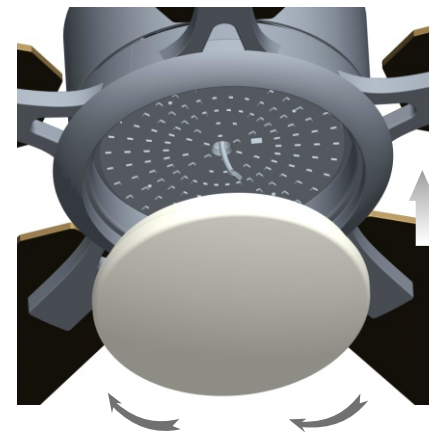

Fig 10.1
10.1 Align the lampshade slot with the slot of light kit pan, and turn it clockwise to securely lock into the light kit pan as shown in Fig 10.1.